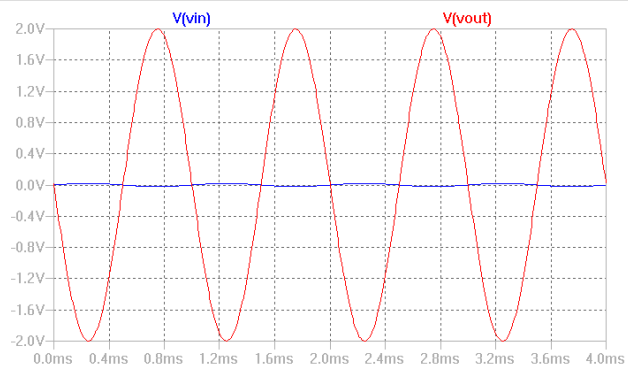

Figure 3.22: transient analysis of the op-amp circuit
5. Run a transient analysis as shown to duplicate Figure 3.22. What is the measured gain?